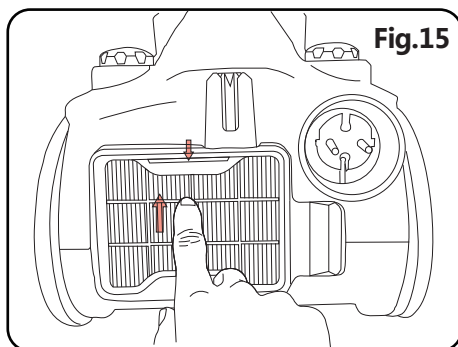

Fig.15
(2) As in fig.15, get out the outlet filter.